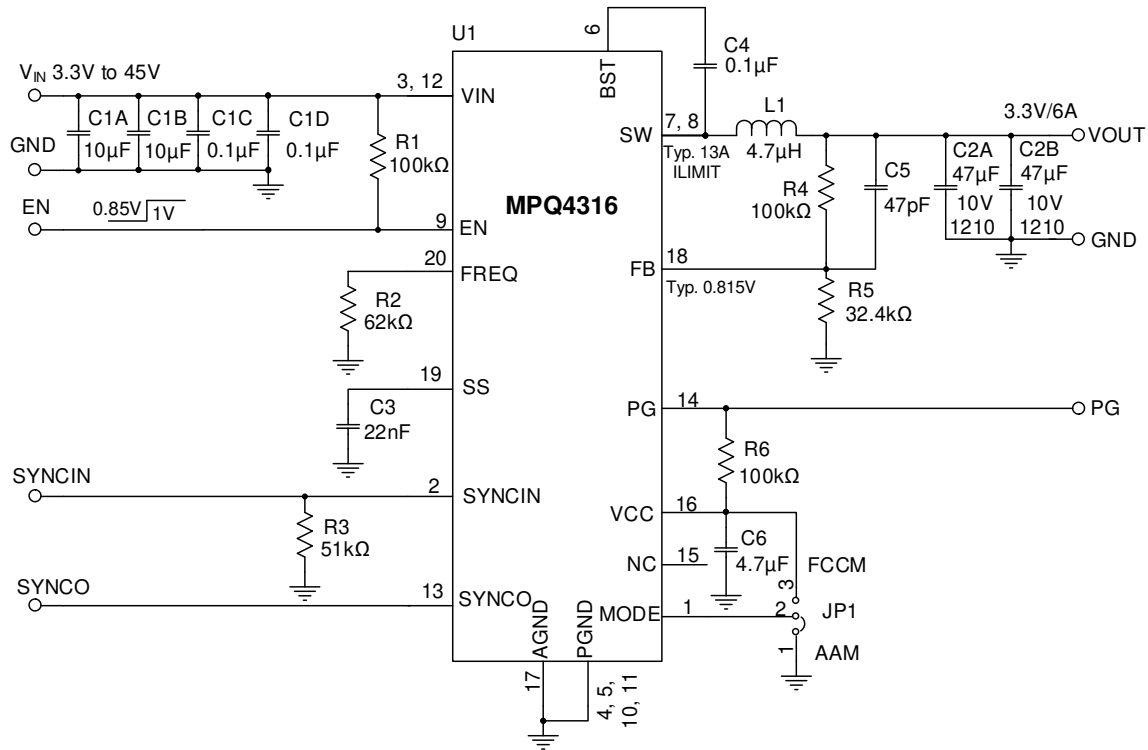

Figure 13: V_{OUT} = 3.3V, f_{sw} = 470kHz
9) The recommended PCB layout is based on Figure 13.